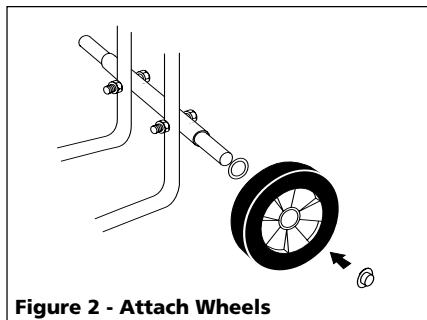

Figure 2 - Attach Wheels
3. Slide one 5/8" I.D. washer and wheel on to each end of the axle. Using a hammer, tap a pal nut onto each end of the axle to retain the wheels (See Figure 2).